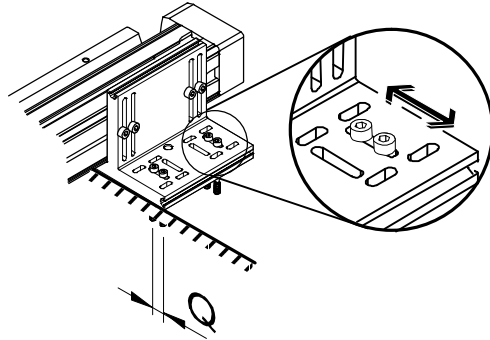

Fig. 7: Q = Play for transverse fastening
- Tighten the fastening screws for the transverse fastening at first only slightly (see Fig. 7: Q). The FDG-...-ZR-RF can then be further adjusted until it is mounted correctly.
5. Tighten the fastening screws (see Fig. 7: Q) of the guide axis.